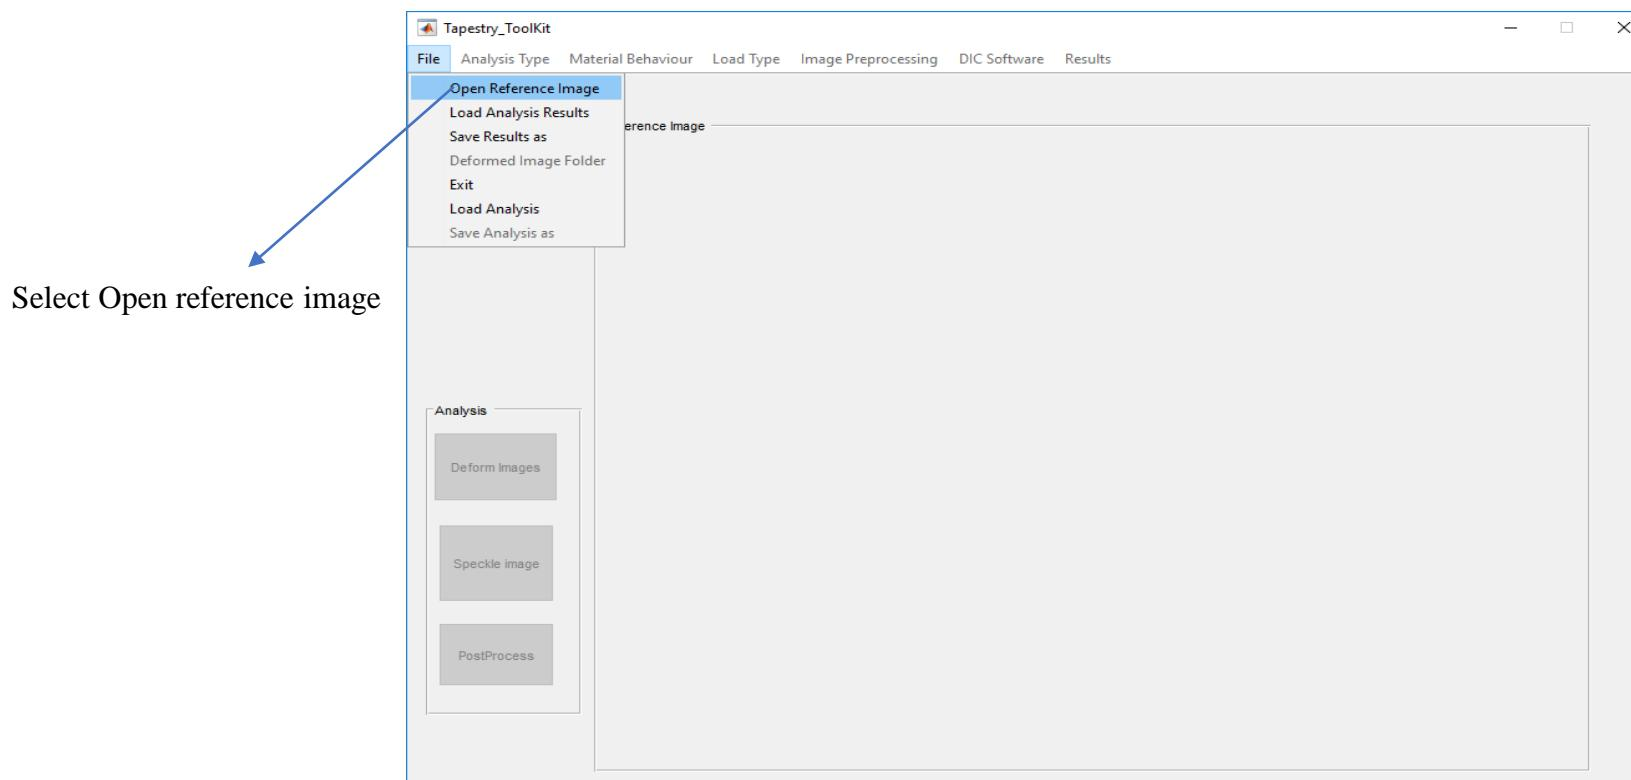

Figure 2
- At start-up (see Figure 2), only the **File** menu is active!
10. You can locate the deformed image folder(s) by going to the **File** menu and selecting the **Deformed Image Folder** (See Figure 2) or by double clicking on your working directory.